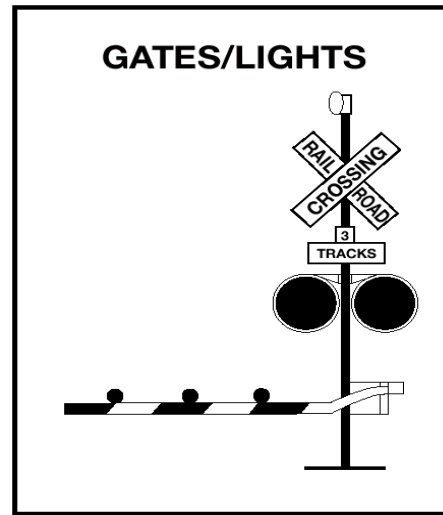

Figure 2.18
yield the right-of-way to the train. If there is more than one track, make sure all tracks are clear before crossing. See Figure 2.18.
**Gates.** Many railroad-highway crossings have gates with flashing red lights and bells. Stop when the lights begin to flash and before the gate lowers across the road lane. Remain stopped until the gates go up and the lights have stopped flashing. Proceed when it is safe. See Figure 2.18.